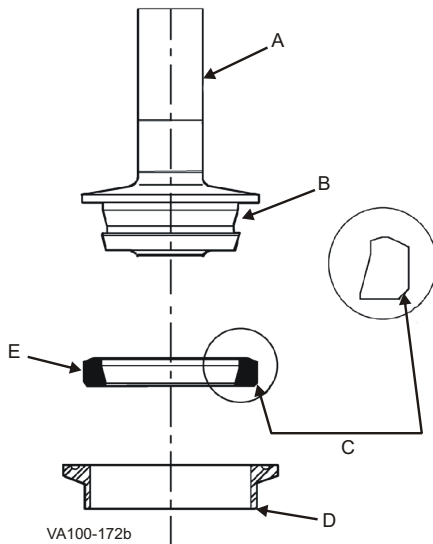

Figure 28: Tef-Flow™ Seat
1. Place a piece of shim stock or a feeler gauge behind the seat ring (Figure 28, item C) to prevent scratching the stem surface.
4. To install a new seat, place the seat ring on a standard S-Line ferrule (item D) equal in size to the valve, or on the seat ring tool as shown in Figure 28, item E.
2. To install a new seat, place the installation tool base onto a table or bench with a 1.0" (25 mm) hole (Figure 28, item B). For tool part numbers, see "Installation Tools" on page 85.
4. Place a new seat ring (item C) onto the stem with the seat angle (item D) and flat side facing away from the base as shown in Figure 28.
5. Place the seat ring tool (Figure 28, item A) over the seat ring. For tool part numbers, see "Installation Tools" on page 85.
3. Lubricate the new Tri Ring (Figure 28, item A) with acceptable cleansing solution or lubricant.